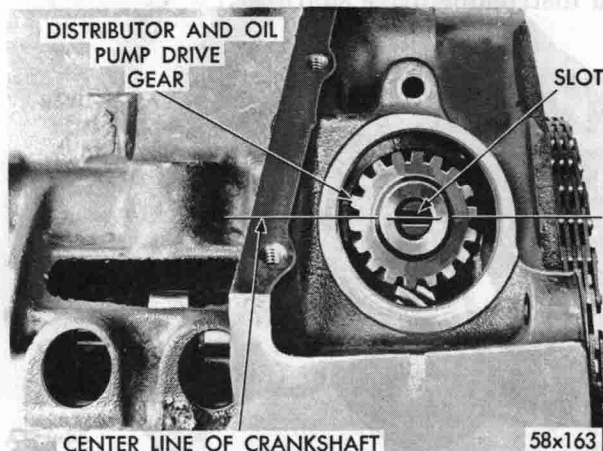

Fig. 41—Distributor Drive Gear Installed
(1) Rotate the crankshaft until No. 1 cylinder is at top dead center on firing stroke.
(2) When in this position, the straight line on the vibration damper should be under (DC) on the timing indicator.
(3) Coat shaft and drive gear with engine oil. Install the shaft so that after the gear spirals into place, it will index with oil pump shaft, so that the slot in top of drive gear will be parallel with center line of crankshaft as shown in Figure 41.